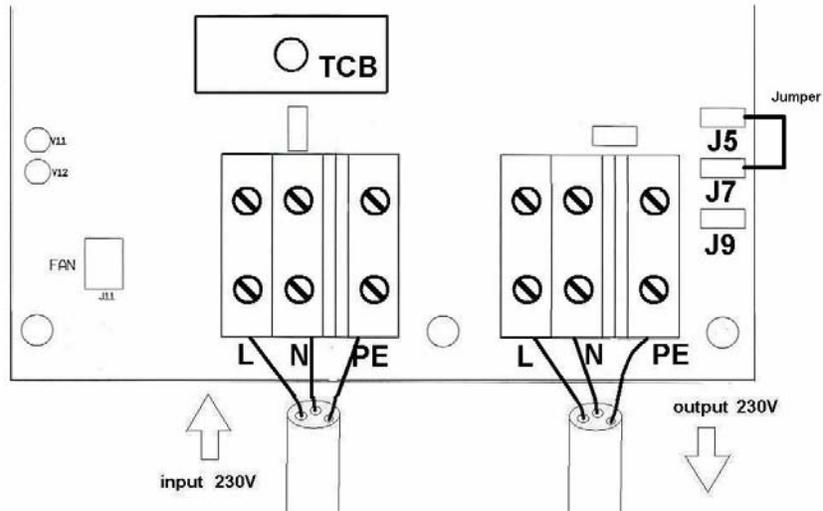

Figure 3: Output neutral grounding
2.3. Output neutral grounding (fig. 3)
A Residual Current Device (RCD) or Ground Fault Circuit Interrupter (GFCI) must be installed in the output cable of the isolation transformer. For this RCD to operate correctly, the output neutral must be connected to ground (= all the metal parts in the boat). This is achieved by placing a jumper on male push-on connectors J5, J7 (see fig. 3), and by grounding the enclosure of the isolation transformer.